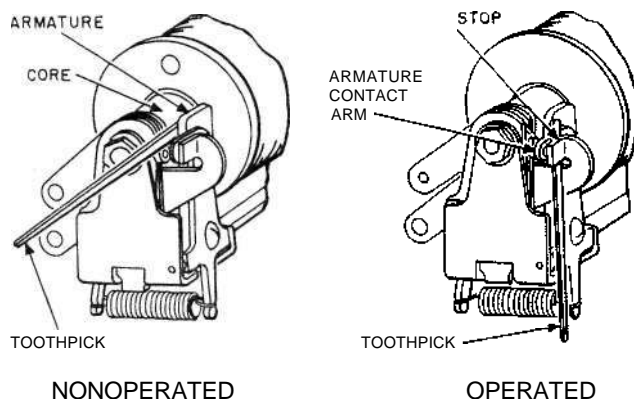

Fig. 21—Blocking 208- and 214-Type Relays
3.18 208- and 214-Type Relays: Fig. 21—Block relays nonoperated by inserting the flat end of a toothpick between the armature and the core. Block relays operated by inserting the flat end of a toothpick between the armature contact arm and the backstop. Insert the toothpick from below, taking care to insert it behind the contacts.